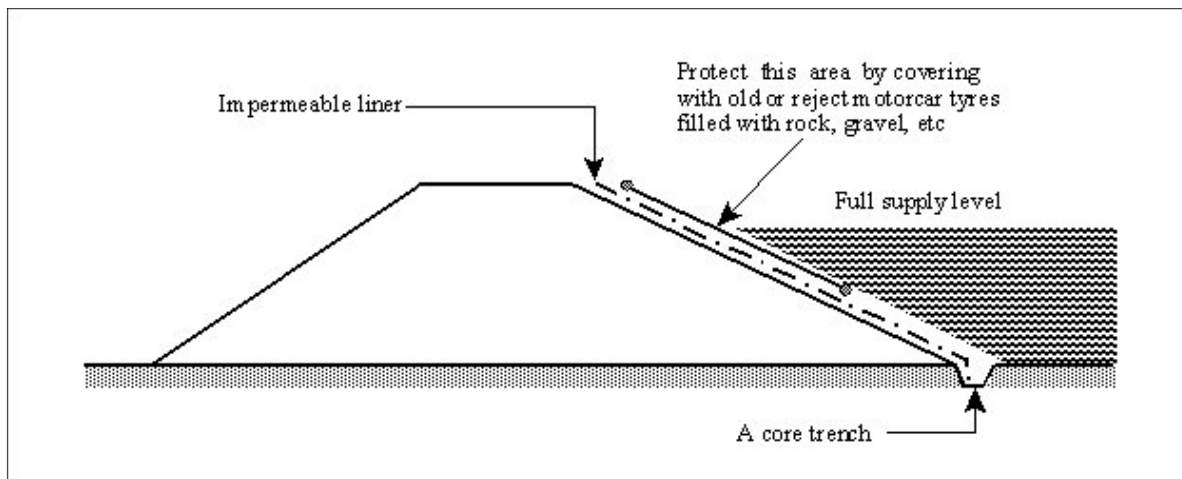

Figure 2. Fitting an impermeable liner to a dam wall to stop seepage through the embankment
- cover the waterside face with an impervious membrane of butyl rubber or plastic (Figure 2)